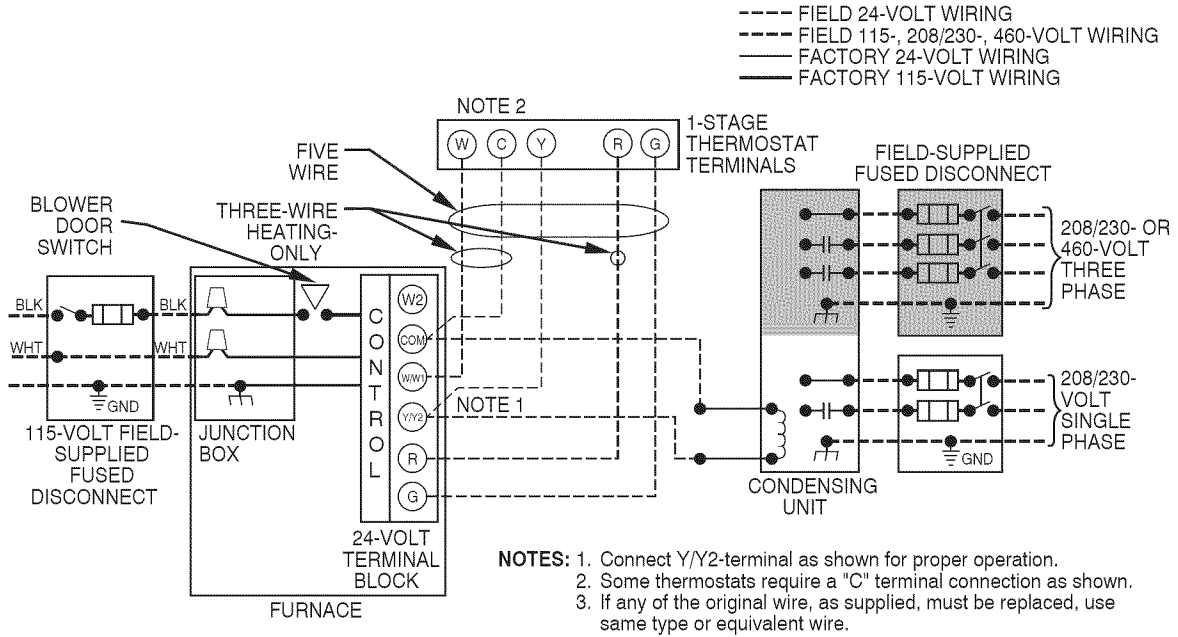

Fig. 34 - Typical Two-Stage Field Wiring Diagram
7. Connect field power and neutral leads to furnace power leads as shown in Fig. 34.
6. Connect power cord power and neutral leads to furnace power leads as shown in Fig. 34.
5. Connect field power and neutral leads to furnace power leads, as shown in Fig. 34.
Make field 24-v connections at the 24-v terminal strip. (See Fig. 35.) Connect terminal Y/Y2 as shown in Fig. 34 for proper cooling operation. Use only AWG No. 18, color-coded, copper thermostat wire.